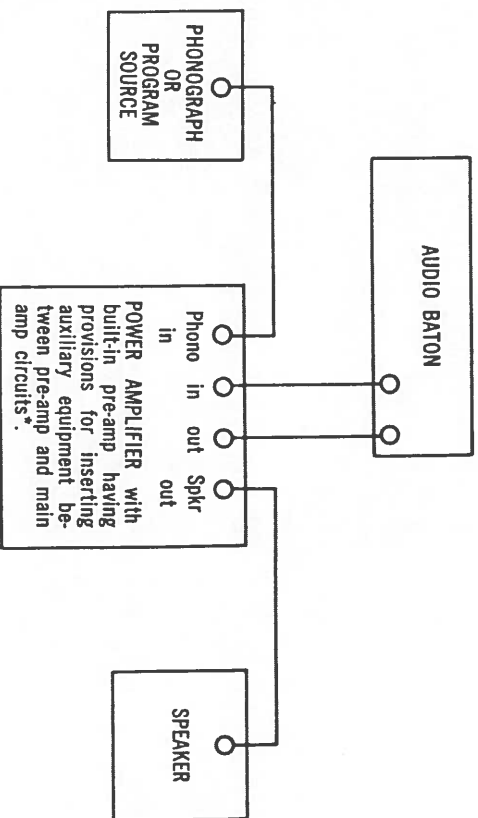

Fig. 1
2.2 Connections: (See examples in Fig. 1 and 2).
C To install with a combination Amp-Preamplifier unit, see Fig. 1.